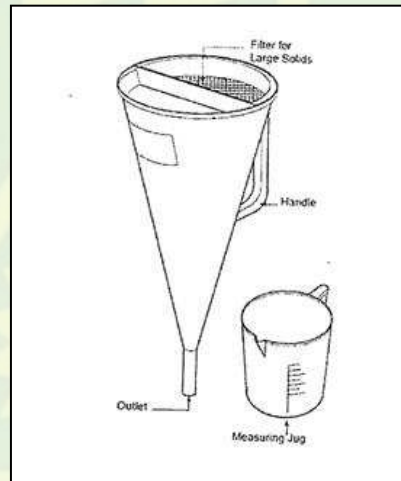

Figure 1: Apparatus for API Marsh Funnel
- ii) API Marsh Funnel (calibrated to outflow 1 qt. of fresh water at a temperature of $21 \pm 3^\circ\text{C}$ in 33 ± 0.5 seconds); refer Figure 1: Apparatus for API Marsh Funnel